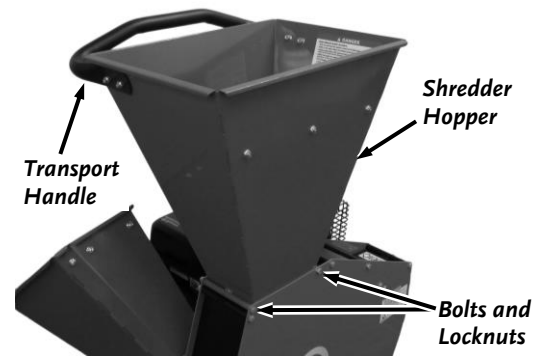

Figure 23
1. Remove the two Bolts and Locknuts Securing the Shredder Hopper using two 1/2" Wrenches (**Figure 23**) and remove the Shredder Hopper from the machine.